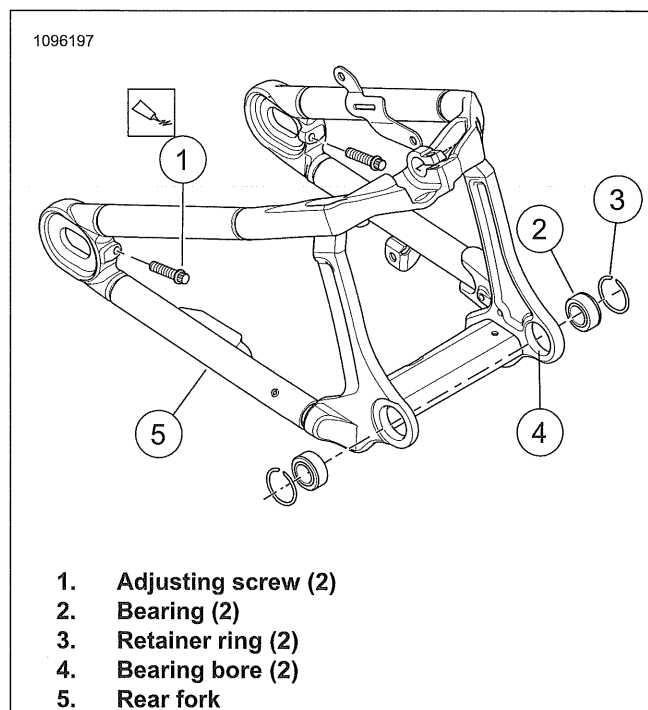
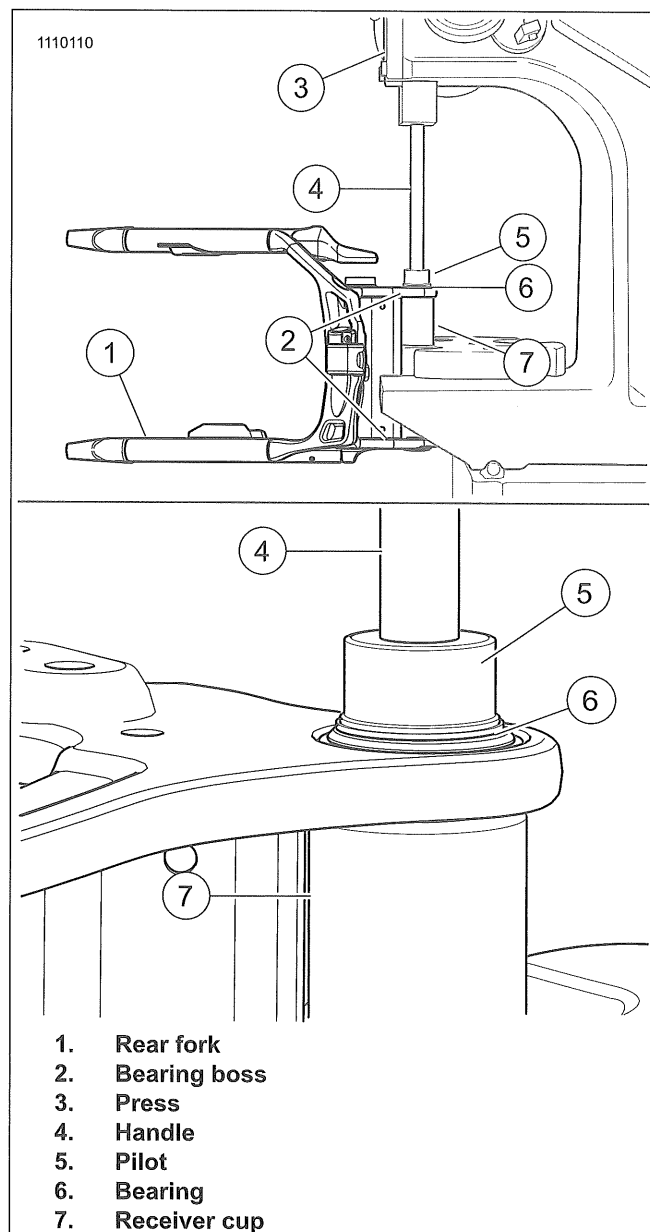

Figure 3-85. Rear Fork Bearings
Figure 3-86. Installing Rear Fork Bearings
- See Figure 3-85. Remove adjusting screws (1).
- See Figure 3-85. Clean all components in solvent.
- Carefully inspect bearings (2) for wear and/or corrosion.
- See Figure 3-85. Install adjusting screw.
- Inspect condition of adjusting screws (1) and replace if necessary.
2. See Figure 3-85. Install bearings.
- a. Install **new** retaining rings (3) onto grooves on **new** bearings (2) if removed.
- b. See Figure 3-86. Position left bearing squarely on left bearing bore.